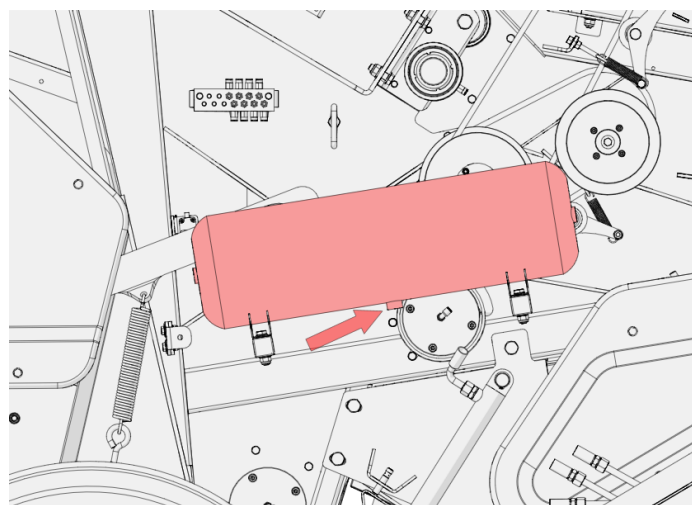

Figure 48. Draining the braking system's air tank
- Pull the pin of the tank's drain valve (Figure 48);